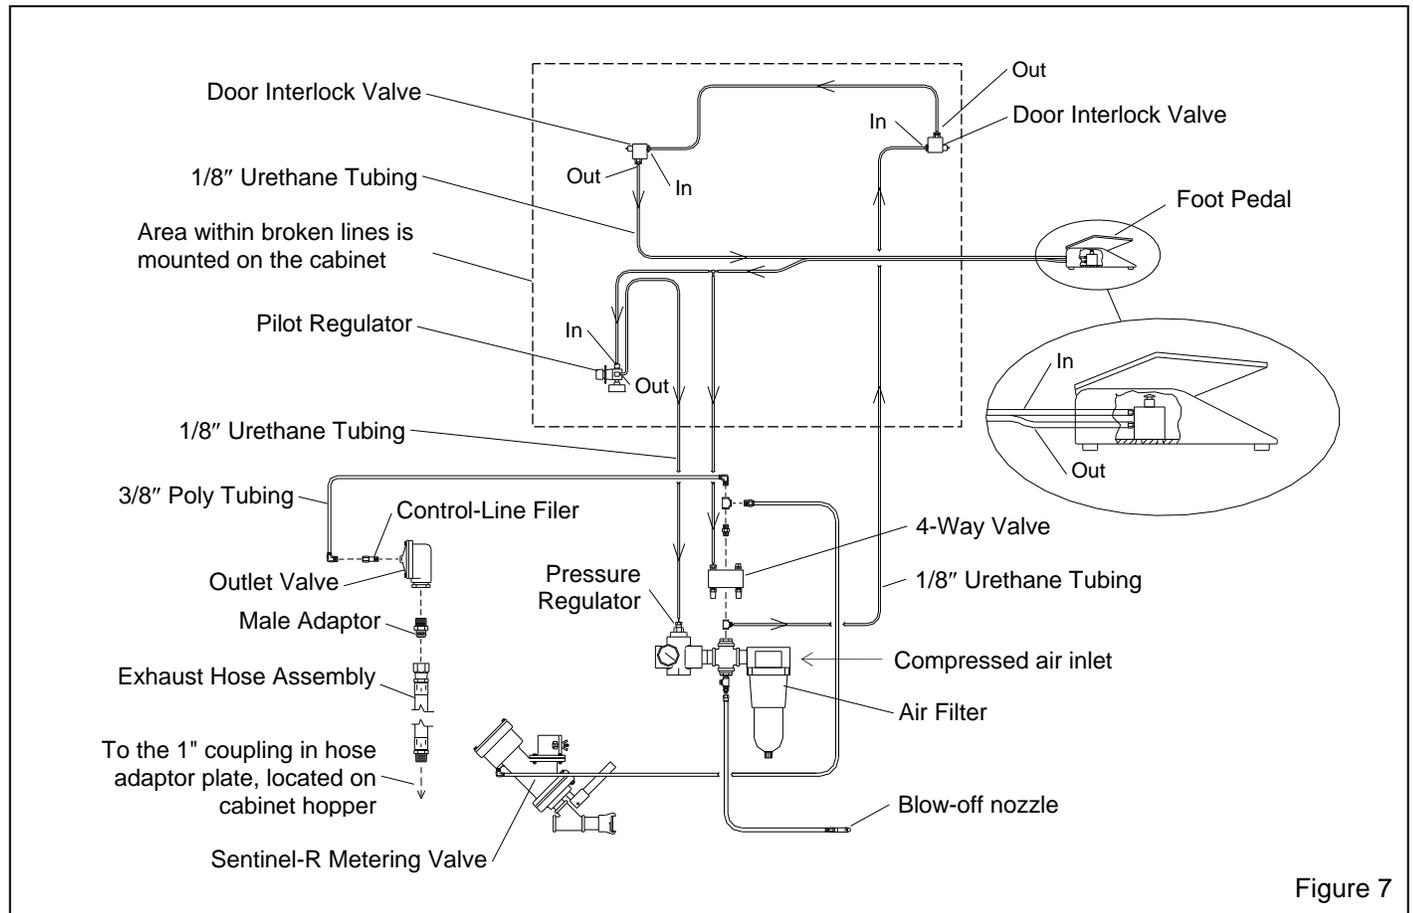

Figure 7
2.1.1 Refer to Figure 1 (and Figure 2 for optional RPC-2 dust collector) for the general arrangement and Figure 7 for the control line schematic. Place all components in a convenient location where compressed air and electrical service are available. The cabinet location must comply with OSHA and local safety codes. Allow for full access to all doors and service areas, and for efficient handling of large parts. Provide enough clearance at the dust collector for maintenance and to remove the dust container. Place the blast machine directly behind the cabinet with the blast hose connection toward the cabinet. The reclaimer may be rotated on the blast machine to make hose connections with as few bends as possible. Determine the best location for all components and position them before making compressed air connections, electrical connections, and attaching flex hose.
2.5.1 Attach the 1/2" blow-off hose coming from the cabinet hopper, to the compatible fitting between the air filter and pressure regulator. Refer to the schematic in Figure 7.
2.8.1 Uncoil the 1/8" urethane control tubing, from under the cabinet. The end of each tubing is numbered 1, 2 or 3. Connect the tubing to the adaptor with the corresponding number on the pressure regulator, piping, and 4-way air valve. Refer to the schematic in Figure 7 to confirm the connections.